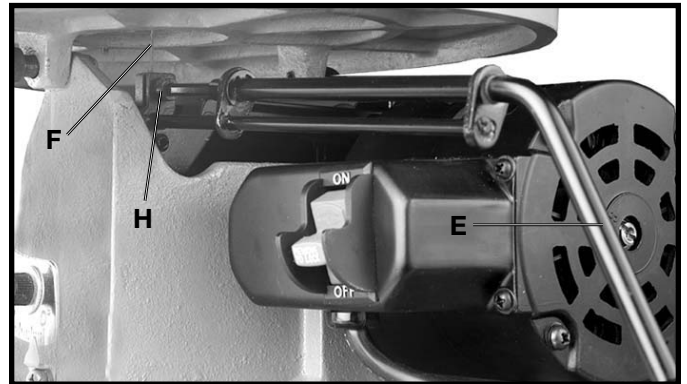

Fig. 17
7. Turn wrench (E) Fig. 17, counterclockwise to loosen screw (H) and remove blade (F) from lower blade holder.